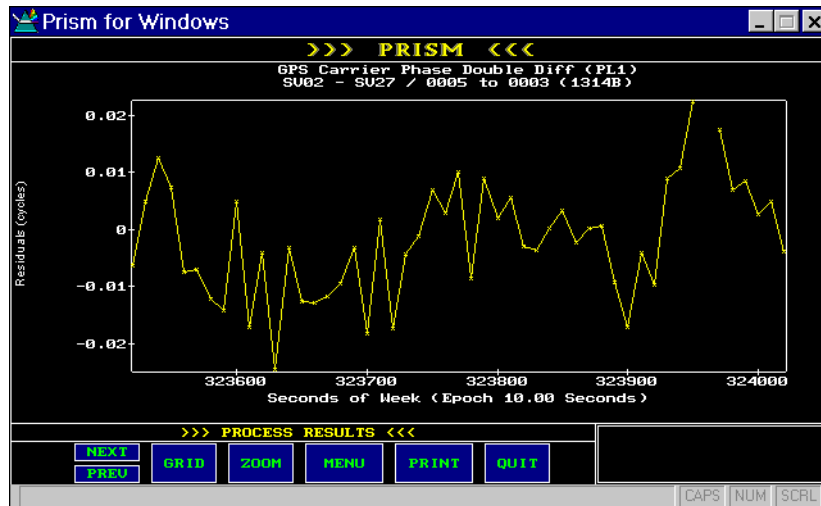

Figure 8.22: Residual Plots
3. Select DISPLAY to see, typically, the display shown in Figure 8.22.